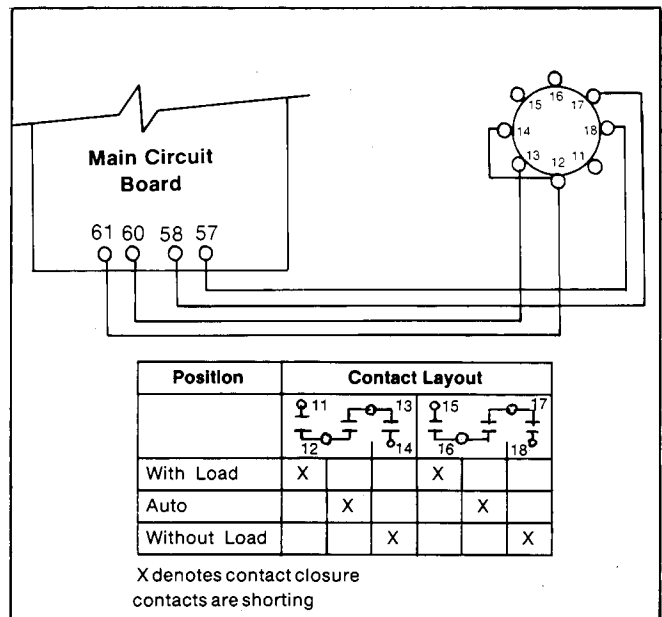

Figure 13. Three-Position Switch Connection
- **Test without load**—generator set starts, and runs unloaded. See Figure 13 for connections.